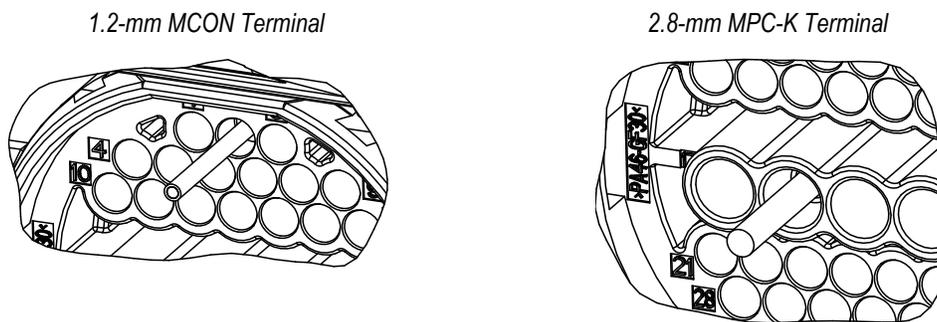

Figure 3
4. Grasp the wire of the crimped terminal, and insert the terminal straight into the circuit cavity until it is fully inserted as shown in Figure 3. If there is significant resistance during insertion, remove the terminal and verify proper orientation.